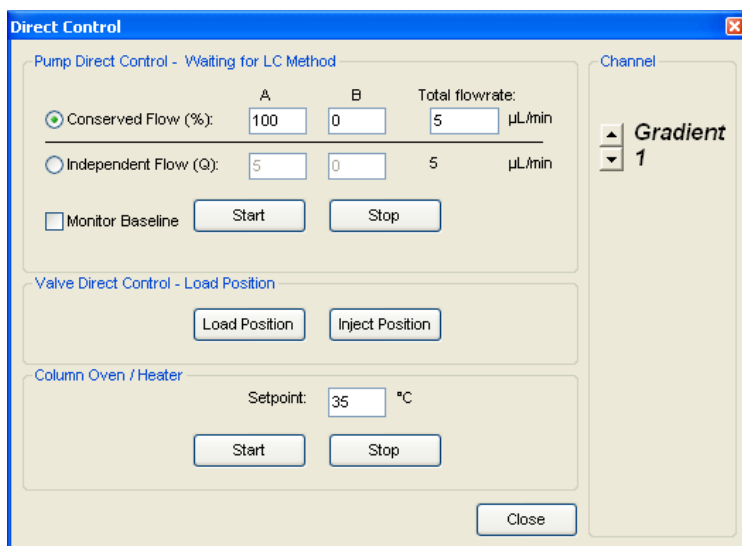

Figure 4-6 Direct Control Dialog—Setting Column Compartment Temperature
7. In the **Direct Control** dialog (Figure 4-6), set the **Setpoint** temperature. Click **Start**.